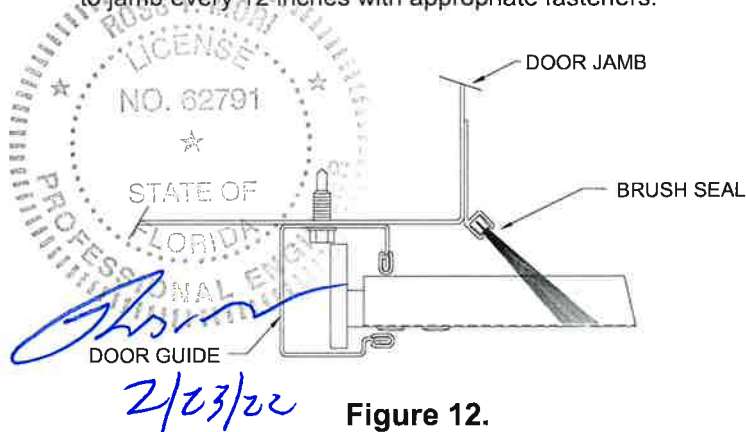

Figure 12.
11.2 Place the door in the closed position before installing the brush seal. Position brush seal so that it just touches the flat portion of the curtain. (See Figure 12.) Fasten brush seals to jamb every 12 inches with appropriate fasteners.